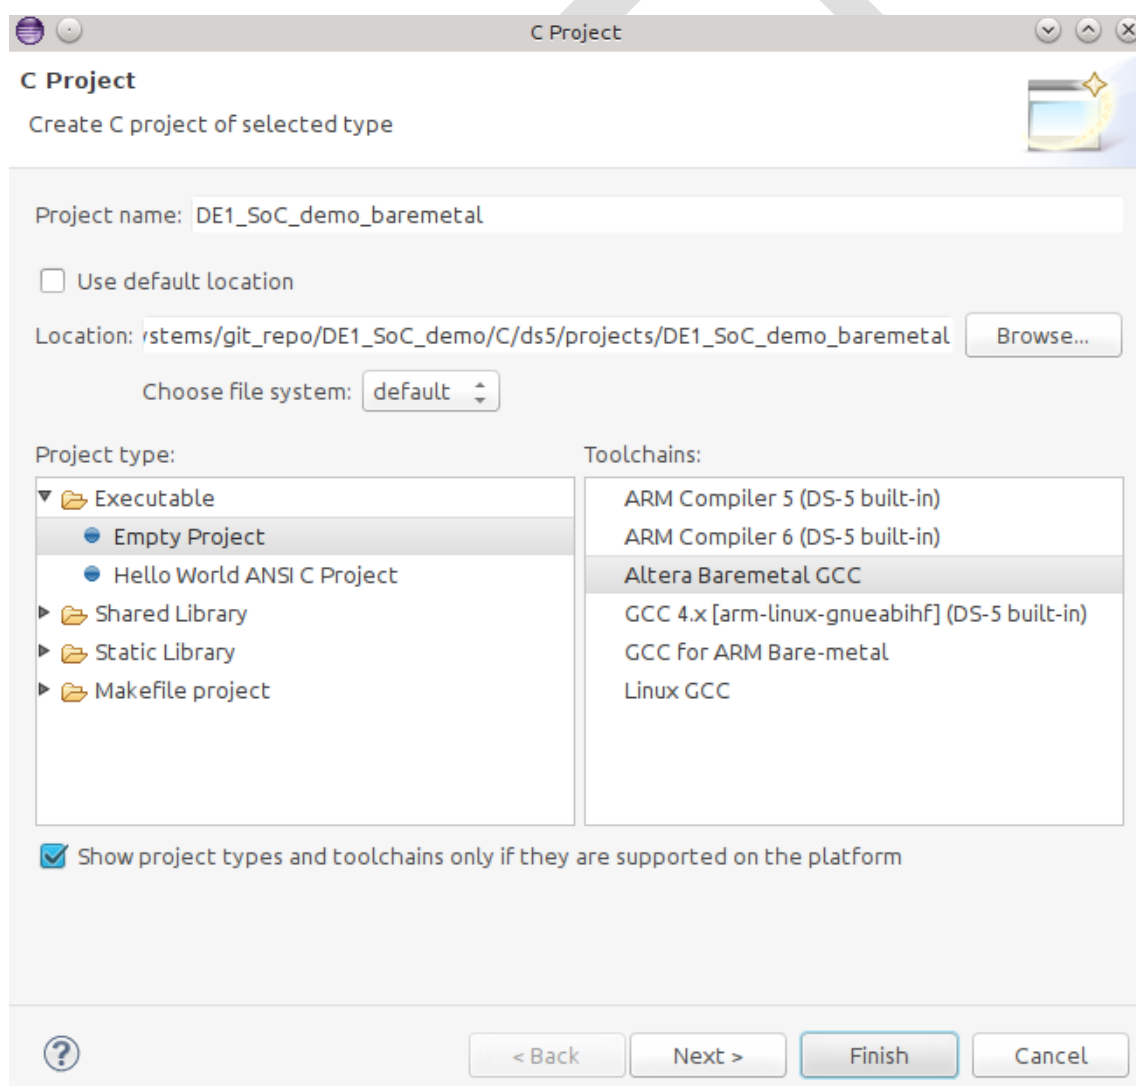

Figure 7-23. New C Project Dialog
- f. You should have something similar to Figure 7-23. Then, press the “Finish” button to create the project.